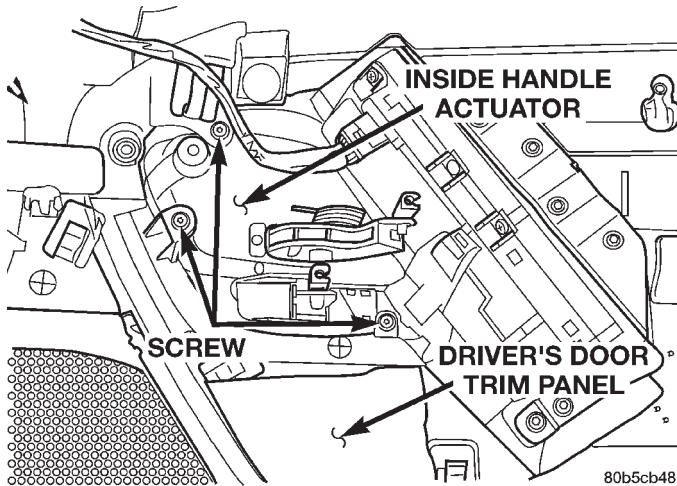

Fig. 24 Front Door Inside Handle Actuator
- (1) Remove door trim panel.
- (2) Disconnect latch and lock rods from inside handle actuator.
- (3) Remove screws attaching inside handle actuator to trim panel (Fig. 24).
- (4) Separate inside handle actuator from trim panel.